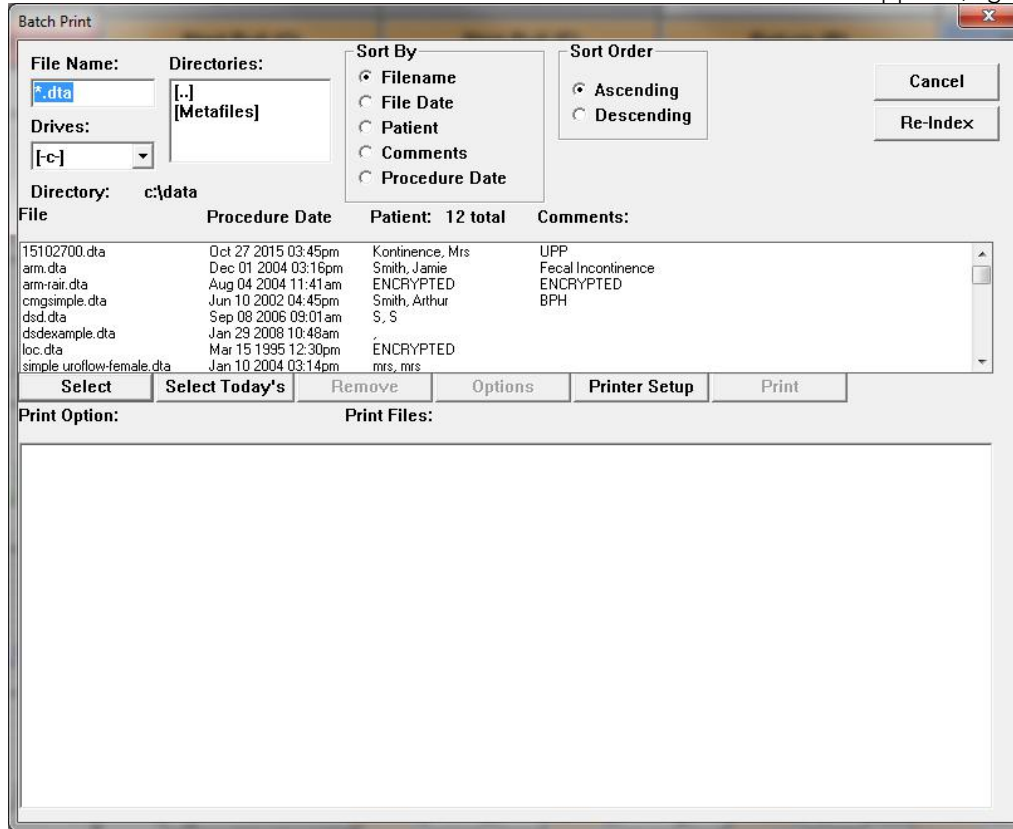

Figure 54: Batch Print Window
1. Click **File** from the menu bar and select **Batch Print**. The **Batch Print** window will appear (Figure 54).